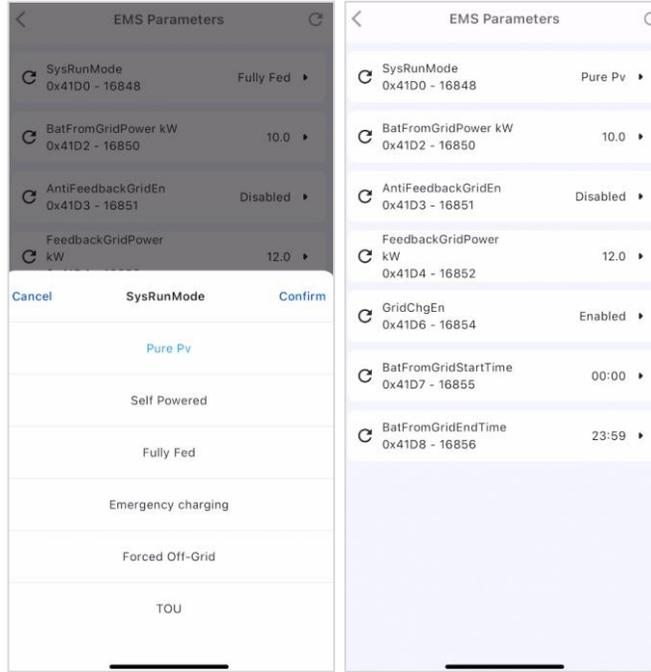

Figure 6-56 EMS Parameters
- If the generator is set to start up manually, it will not stop working automatically. It must be shut down via the app (see Figure 6-56).